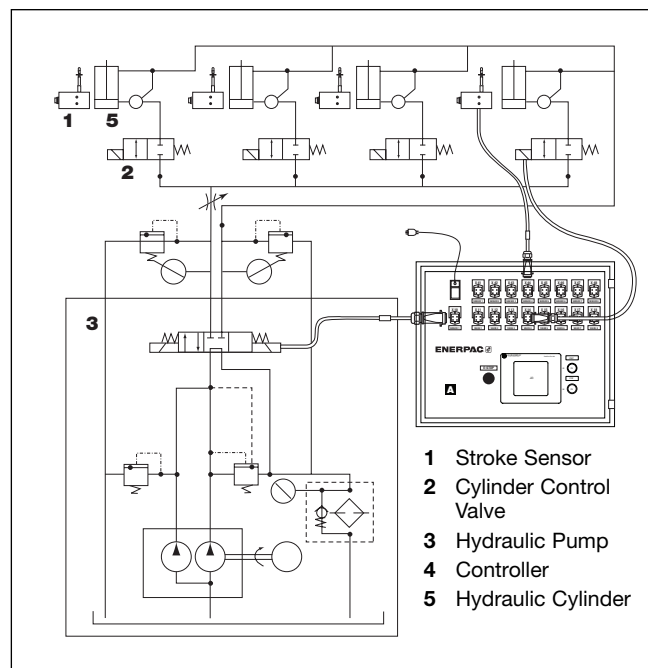

Figure 3, Basic 4-Point System Hydraulic Diagram, Shown Connected to Only One Cylinder for Illustrative Purposes
3. Connect the hose from the CYLINDER CONTROL VALVE (SLCV-24) to the CYLINDER CHECK VALVE. CYLINDER CONTROL VALVES must have proper V-66 flow control valve installed on the advance port of the power pump. (Refer to Fig. 3, Basic 4-point Setup.)
All cylinder advance lines are connected from a common MANIFOLD to a port on the CYLINDER CONTROL VALVE (SLCV-24) at each cylinder. The advance MANIFOLD is, in turn, connected to the V-66 flow control and then to the port of the DIRECTIONAL CONTROL VALVE (Refer to Figure 3, Basic 4-point Setup.)
All cylinder retract lines are connected from a common MANIFOLD to the retract port of the hydraulic cylinders. The retract MANIFOLD is, in turn, connected to the retract port on the pump mounted electric valve. (Fig. 3, Basic 4 Point Setup.)
4. Connect the dual DIN plug electrical cable (SLPVC-1) from the DIRECTIONAL CONTROL VALVE to the output plug on face panel of the CONTROLLER (Refer to Figure 3, Basic 4-Point Setup drawing.)